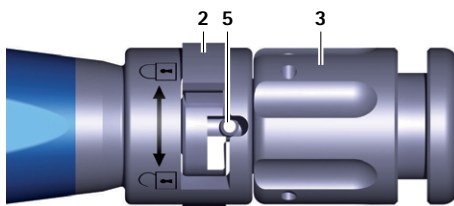

Fig. 4 Close-up view of the insertion instrument, trial implant/implant clamped
- Turn the rotary nut 3 on the insertion instrument A clockwise ("back" direction) until the trial implant is clamped, see Fig. 4.
- Turn the rotary nut **3** on the insertion instrument **A** clockwise (direction: "back"), until the implant is clamped, see Fig. 4.